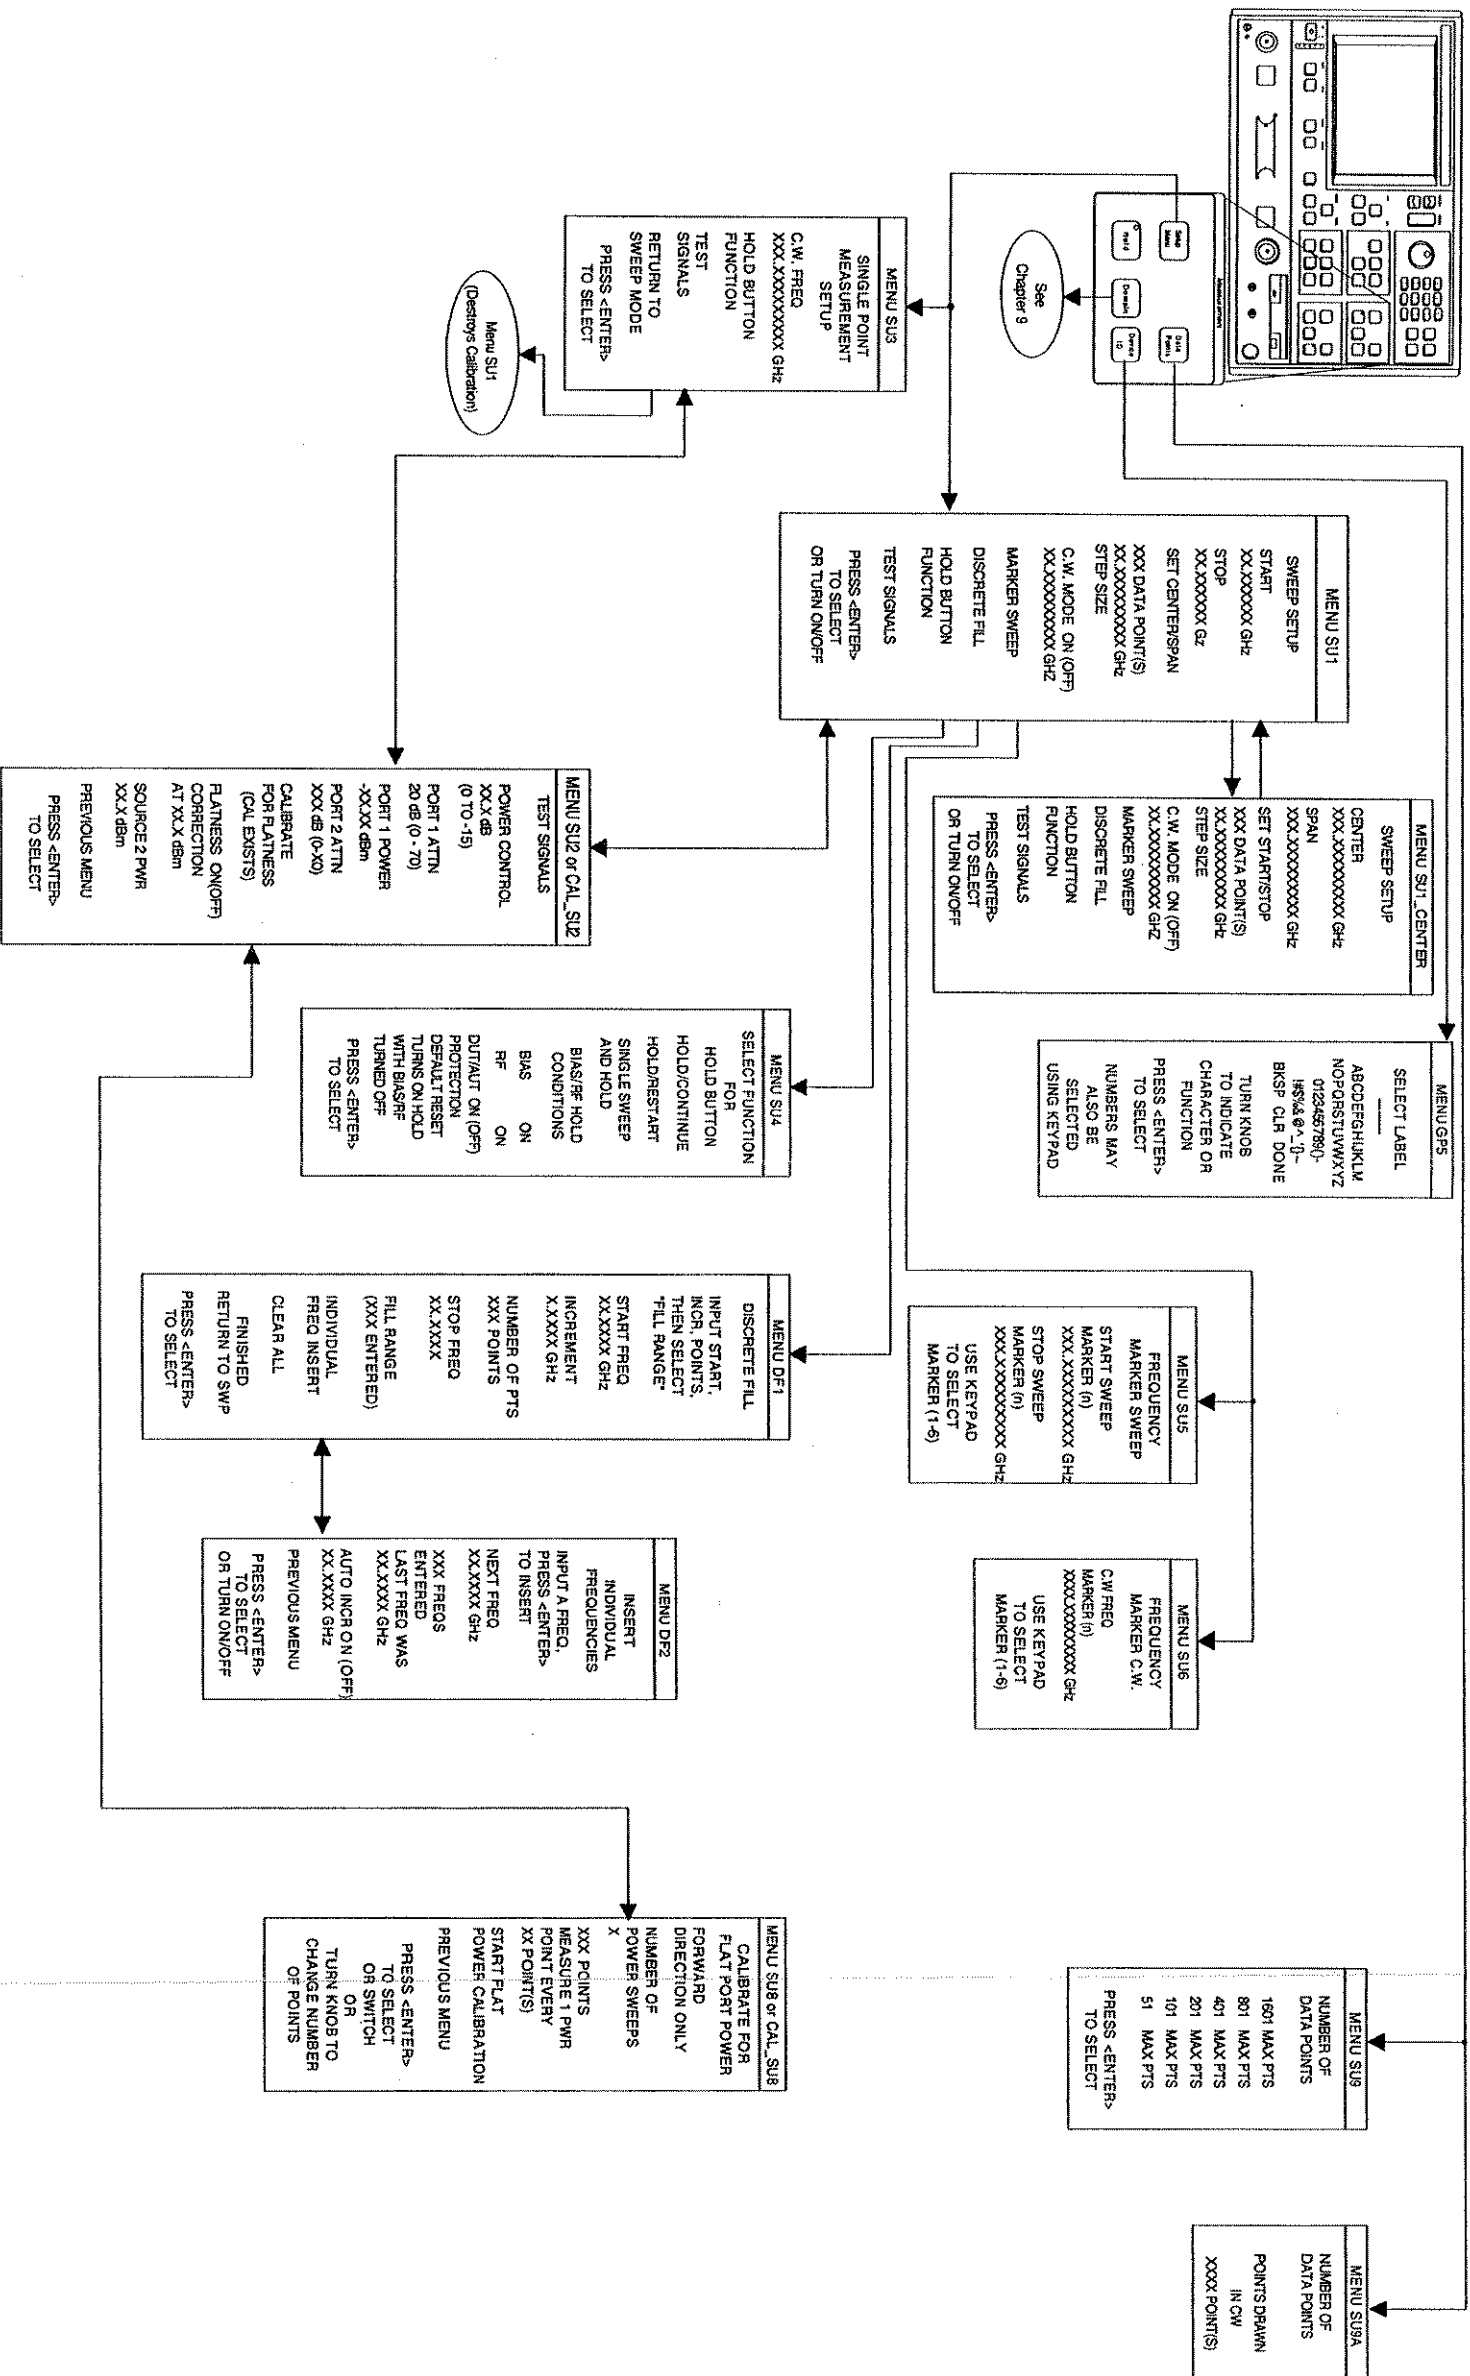

Figure 4-6. Measurement Key-Group
* Menu SU1/SU3 - See Figure 4-6
The individual keys within the Measurement key-group are described below. Flowcharts of the Setup Key and Data Points key menus are shown in Figure 4-6. As described for the calibration menus, the flow is left-to-right and the double arrowheaded lines indicate that the flow returns to the calling menu once a selection has been made. Full menu descriptions can be found in the alphabetically ordered Appendix A under the menu's call letters (SU1, SU2, DF, etc).